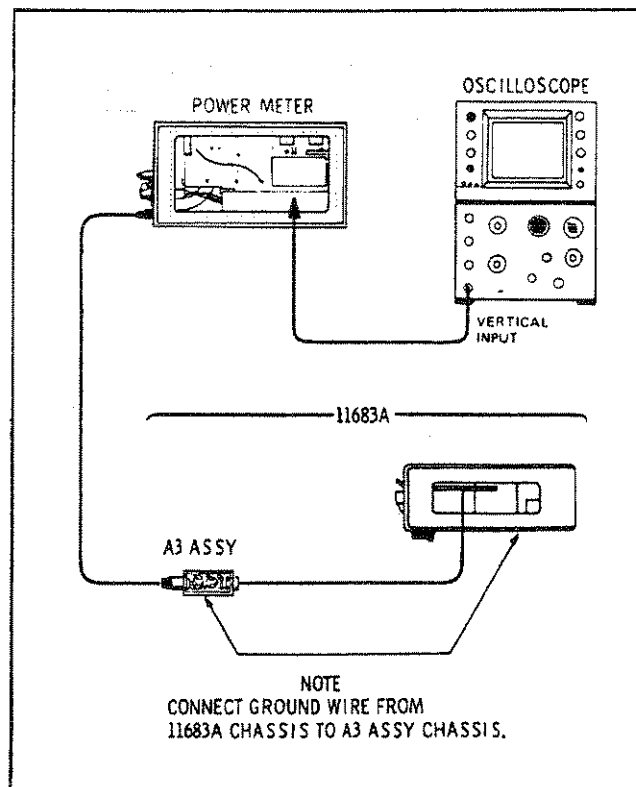

Figure 9. FET Balance Adjustment Setup
b. Connect the equipment as shown in Figure 9. The oscilloscope probe will be coupled to A4TP4 in the HP 435A Power Meter or A2TPAC in the 436A Power Meter.